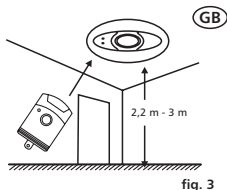

fig. 3
- It is recommended to orientate the red area of the alarm to point towards the entrance doorway in order to ensure the best reception of the infrared remote control signal (Fig. 3).